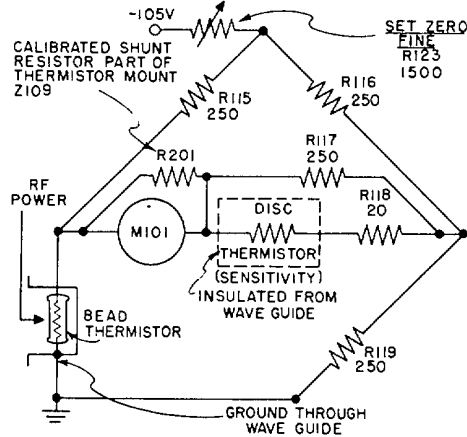

Figure 2-26. Thermistor Bridge Circuit Showing Sensitivity Compensation
(3) SENSITIVITY COMPENSATION. (See figure 2-26.)
(b) Since thermistors have the characteristic of increasing in resistance with a decrease in temperature, a disc thermistor is put in series with the meter. (See figure 2-26.) Resistor R118 in series and resistor R117 in parallel with this thermistor have been inserted to get the correct rate of change in resistance with varying degrees of temperature.